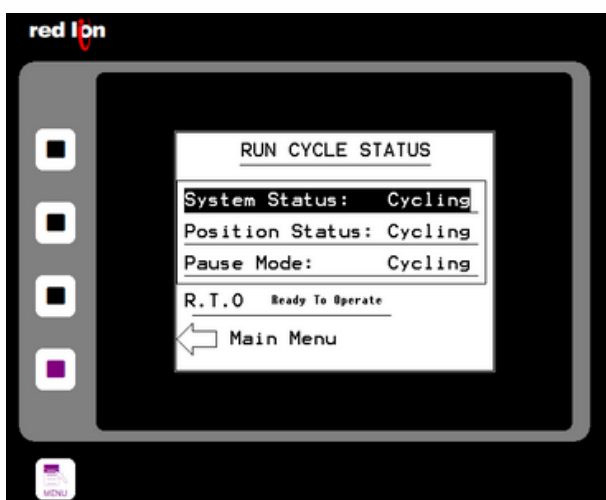

Figure 6.12. Run cycle status screen showing the machine is cycling.
- 1 The UBS is cycling (i.e. being used for line setting) (Figure 6.12).